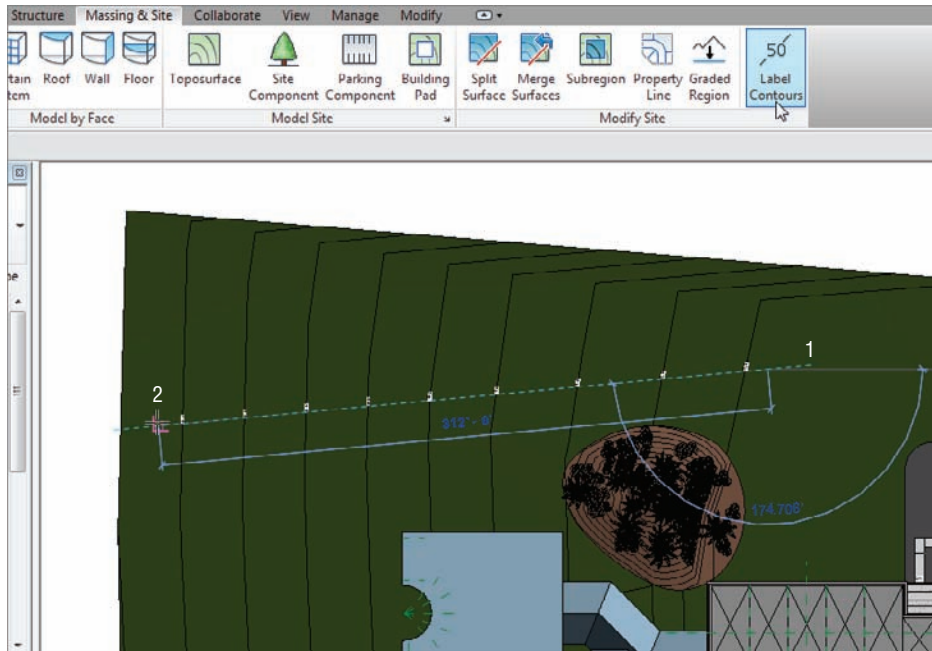

FIGURE 18.20 Labeling the contours
1. On the Massing & Site tab, click the Label Contours button, as shown in Figure 18.20.
2. Pick a point to the outside of the toposurface, labeled 1 in Figure 18.20.
3. Pick a second point near the building, labeled 2 in Figure 18.20. After you pick the second point, the contours are labeled.